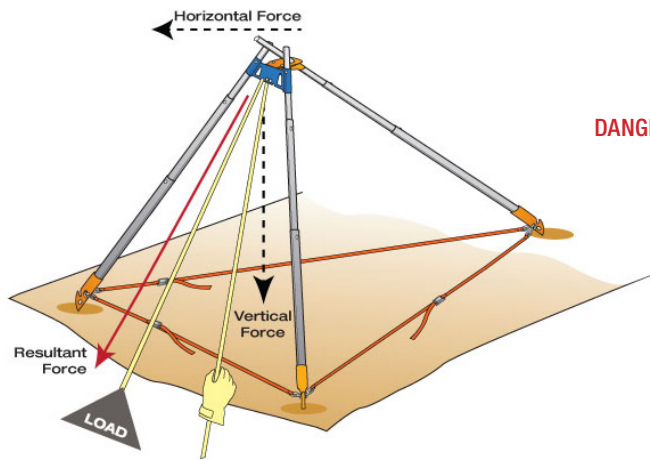

FIGURE 3A DANGER! UNSAFE
- The Main Line should never enter and exit on the same side of the AZ VORTEX head, **Figure 3A**. This creates a horizontal force vector that will attempt to topple the tripod. Fixing the Main Line directly to the AZ VORTEX head will cause the same hazard, **Figure 3B**.